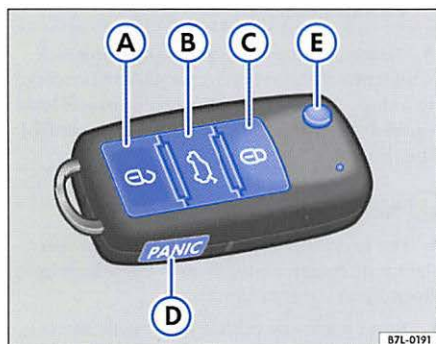

Fig. 14 Assignment of buttons on the remote control key
ⓐ – Unlocking the vehicle ⇒fig. 14 ⓐ
- Press the unlock key ⇒ page 32, fig. 14 (A) in the remote control once.